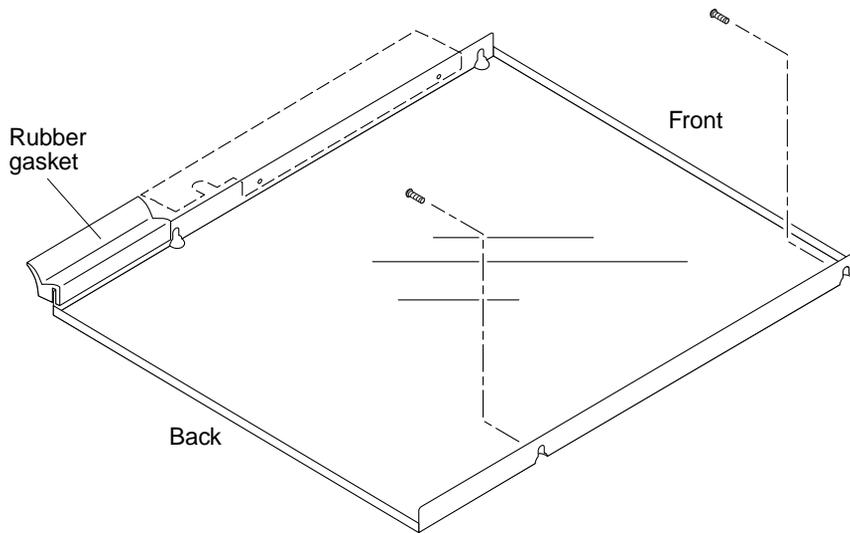

FIGURE 4-8 Main Baffle
3. Identify the front and back of the main baffle (FIGURE 4-8 on page 4-12).